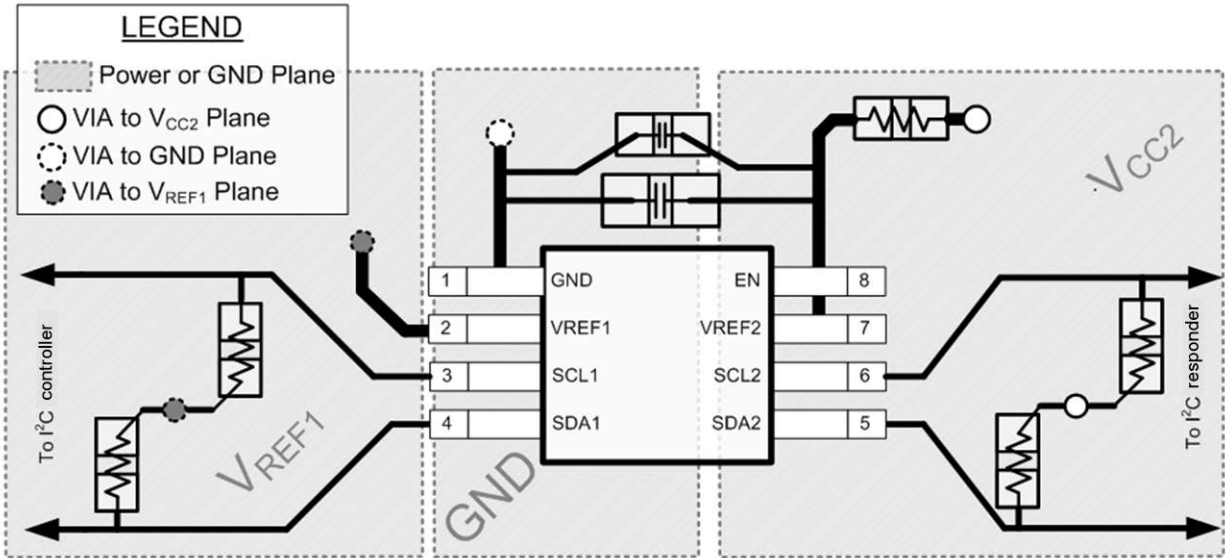

Figure 8-8. Layout Example
In all PCB layouts, it is a best practice to avoid right angles in signal traces, to fan out signal traces away from each other on leaving the vicinity of an integrated circuit (IC), and to use thicker trace widths to carry higher amounts of current that commonly pass through power and ground traces. The 100-pF filter capacitor should be placed as close to  $V_{REF2}$  as possible. A larger decoupling capacitor can also be used, but a longer time constant of two capacitors and the 200-k $\Omega$  resistor results in longer turnon and turnoff times for the TCA39306-Q1 device. These best practices are shown in Figure 8-8.
For the layout example provided in Figure 8-8, it would be possible to fabricate a PCB with only two layers by using the top layer for signal routing and the bottom layer as a split plane for power ( $V_{CC}$ ) and ground (GND). However, a four-layer board is preferable for boards with higher-density signal routing. On a four-layer PCB, it is common to route signals on the top and bottom layer, dedicate one internal layer to a ground plane, and dedicate the other internal layer to a power plane. In a board layout using planes or split planes for power and ground, vias are placed directly next to the surface-mount component pad, which must attach to  $V_{CC}$  or GND, and the via is connected electrically to the internal layer or the other side of the board. Vias are also used when a signal trace must be routed to the opposite side of the board, but this technique is not demonstrated in Figure 8-8.